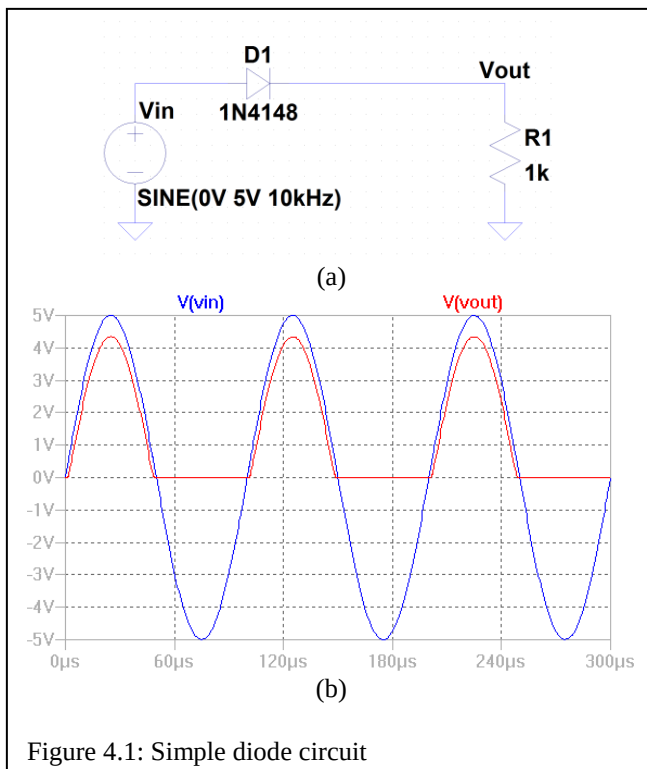
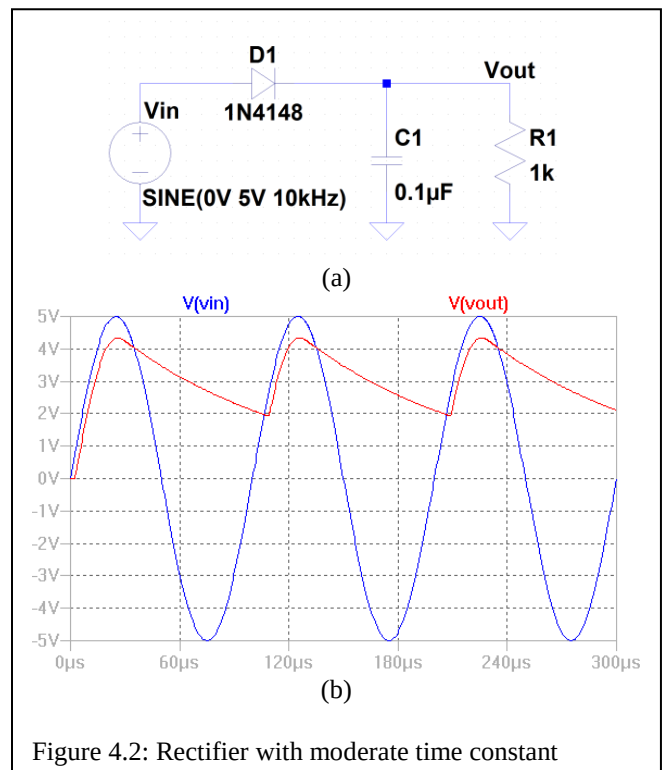
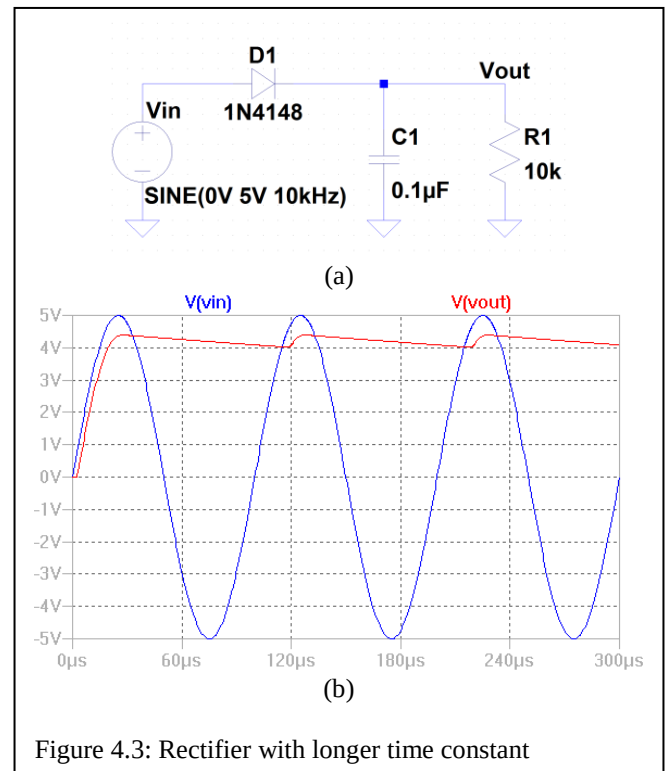

Figure 4.1: Simple diode circuit
Figure 4.2: Rectifier with moderate time constant
Figure 4.3: Rectifier with longer time constant
A simple diode circuit is shown in Figure 4.1. Notice that current passes through the resistor only during the positive half cycle. Now a capacitor has been added to the circuit (Figure 4.2). This capacitor charges during the positive half cycle, and then it discharges through the resistor during the negative half cycle. The RC time constant is a measure of how long it takes the capacitor to discharge. The larger the RC product, the longer is the discharge time. Notice the voltage across the resistor in Figure 4.3 when the RC time constant is made 10 times larger. It is straightforward to show the voltage $v(t)$ across the resistor is
Exercise 4.1: Calculate the RC time constant for the circuits in Figure 4.2 and 4.3.
(Figure 4.2) $t_{RC} =$ _____
(Figure 4.3) $t_{RC} =$ _____
- For an LTspice warm-up, begin by constructing the simple rectifier circuit **schematic** of Figure 4.2(a). Run a **transient simulation** to duplicate the output of Figure 4.2(b). Change R1 to 10 k Ω and re-run a transient simulation. Does this duplicate the result of Figure 4.3(b)?